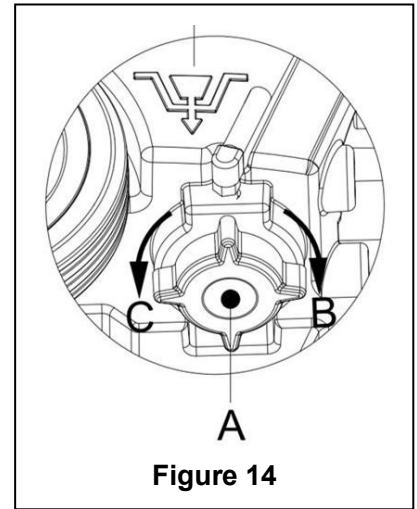

Figure 14
- As shown in **Figure 14**, turn open the lid of Solution tank (A) anticlockwise along direction C, and drain Solution tank completely. Use pure water to cleanse the inside of Solution tank. When work is completed, turn tight the lid of Solution tank (A) clockwise in direction B.